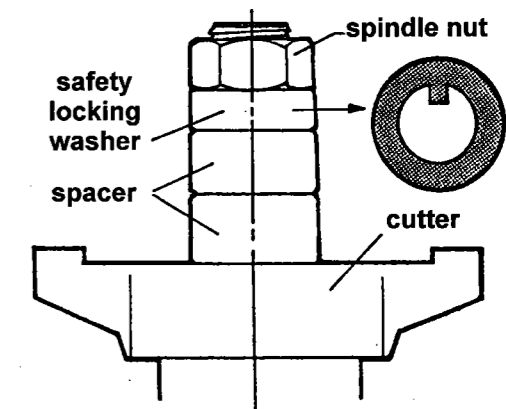

FIGURE 3
**SAFETY LOCK WASHER:** Never operate the shaper without the safety locking keyed washer located immediately under the spindle nut, Figure 3. This prevents the nut from coming loose when the spindle is run in a counterclockwise direction. Do not substitute any other type washer in place of the safety lock washer.